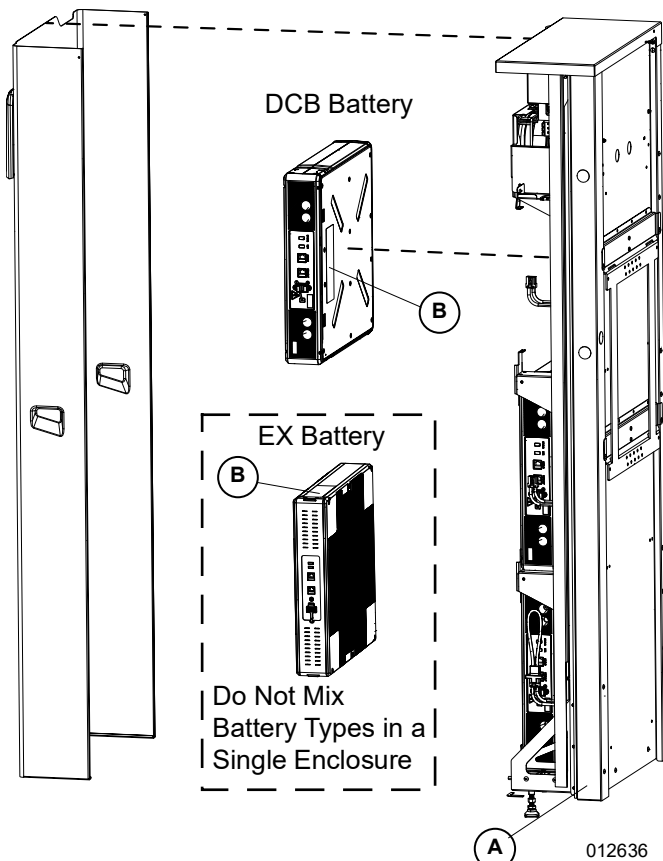

Figure 2-2. Serial Number Location
Refer to **Figure 2-2** to locate serial numbers for the unit (A) and the individual battery modules (B). Record this information in **Table 1: Important Information** on the inside front cover of this manual so it is available if the tags are lost or damaged. When ordering parts or requesting assistance, you may be asked to provide this information.